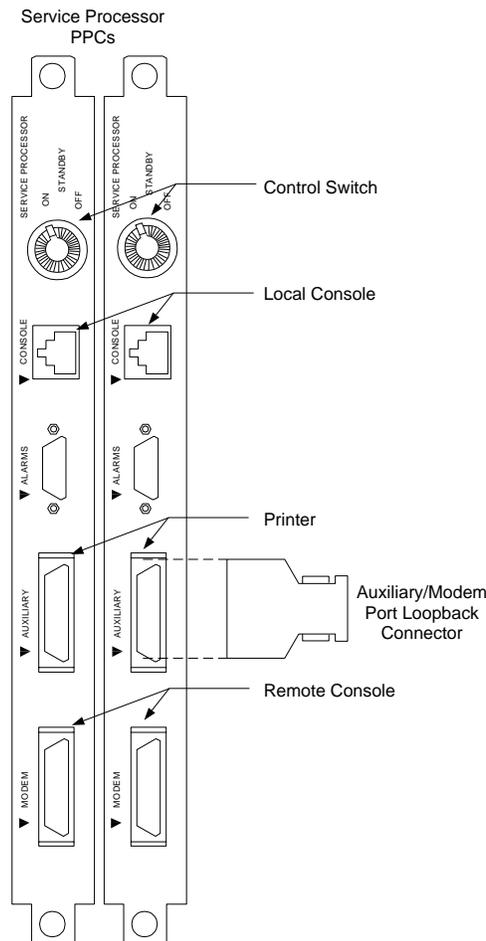

Figure 1. SP Patch Panel Cards and Loopback Connector—Rear of Cabinet
**Summary:** Each Service Processor (SP) provides three main ports. These ports are accessible from the rear of the cabinet via the associated SP Patch Panel Cards (PPCs). The ports are labeled AUXILIARY (which connects the local printer), CONSOLE (which connects the local console), and MODEM (which provides remote connections to the Centralized Announcement Update Control System [CAUCS] and the Total Network Management [TNM] system via *Datakit* VCS). The functionality of the AUXILIARY and MODEM ports may be tested by configuring these ports with an external loopback connector and initiating a software test. Figure 1 depicts the SP-PPCs and loopback connector.